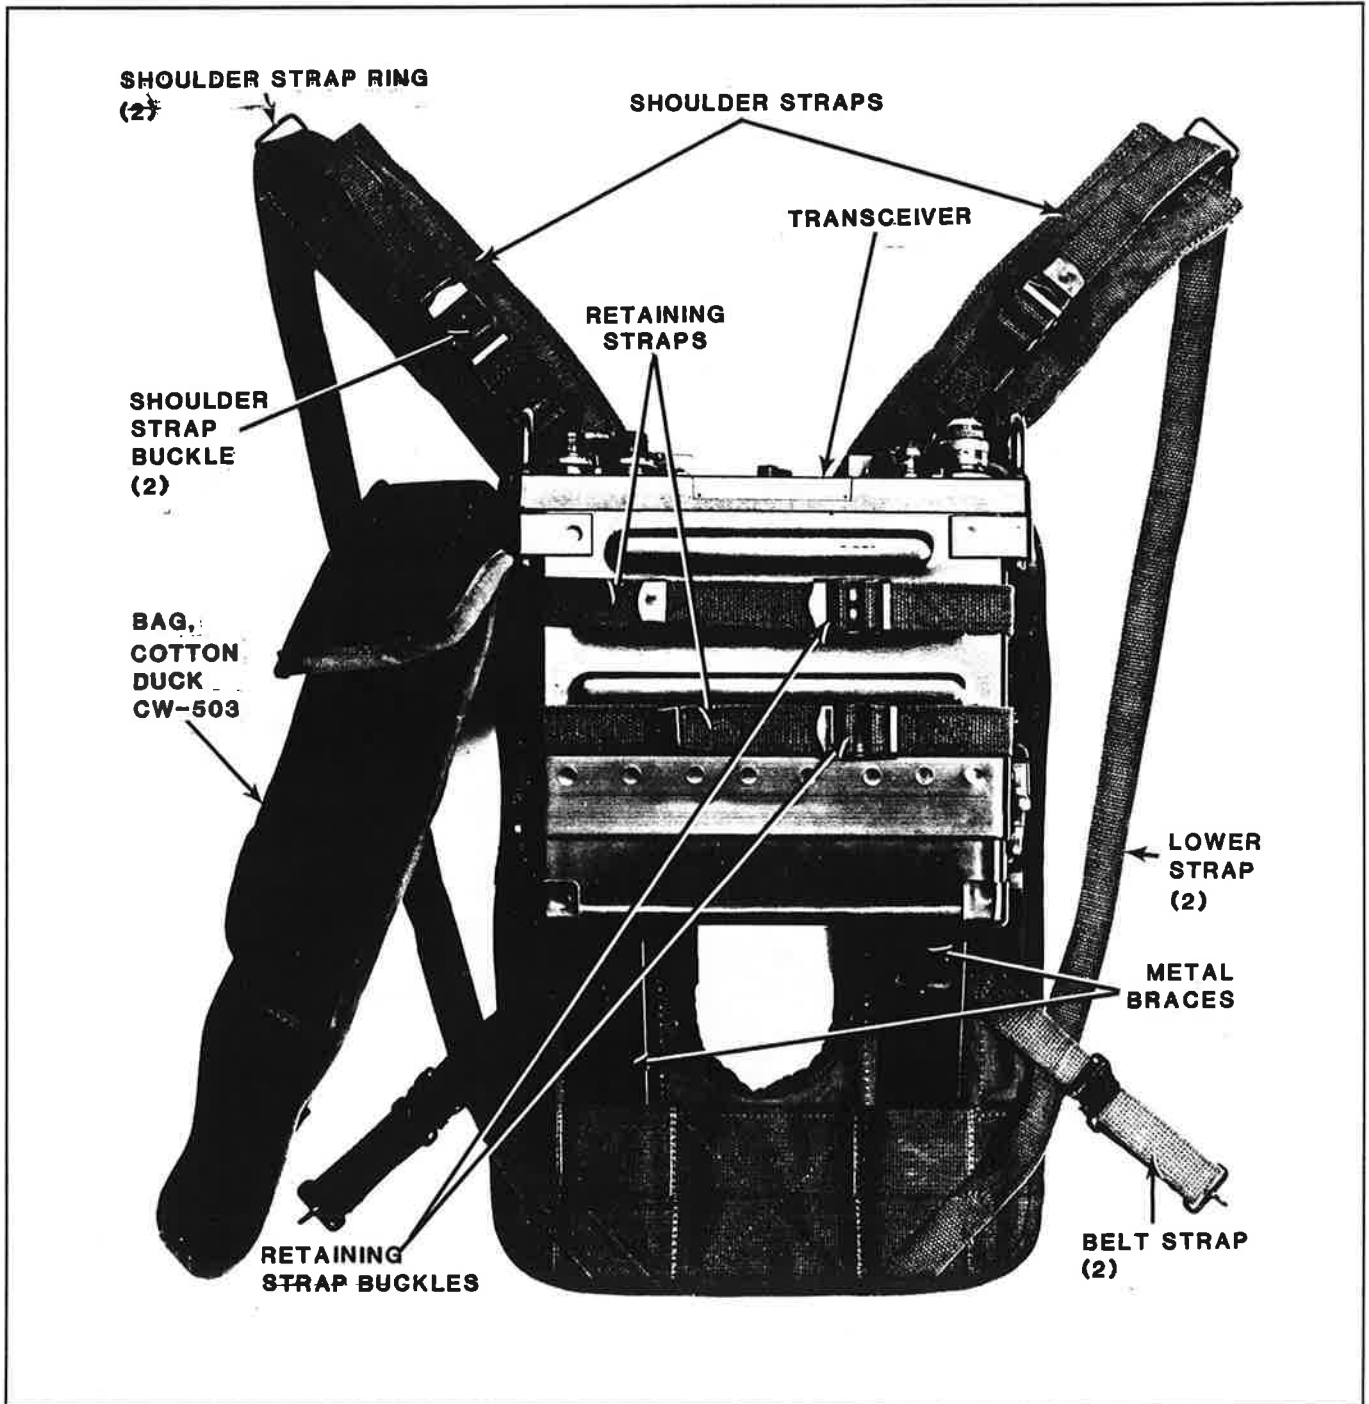
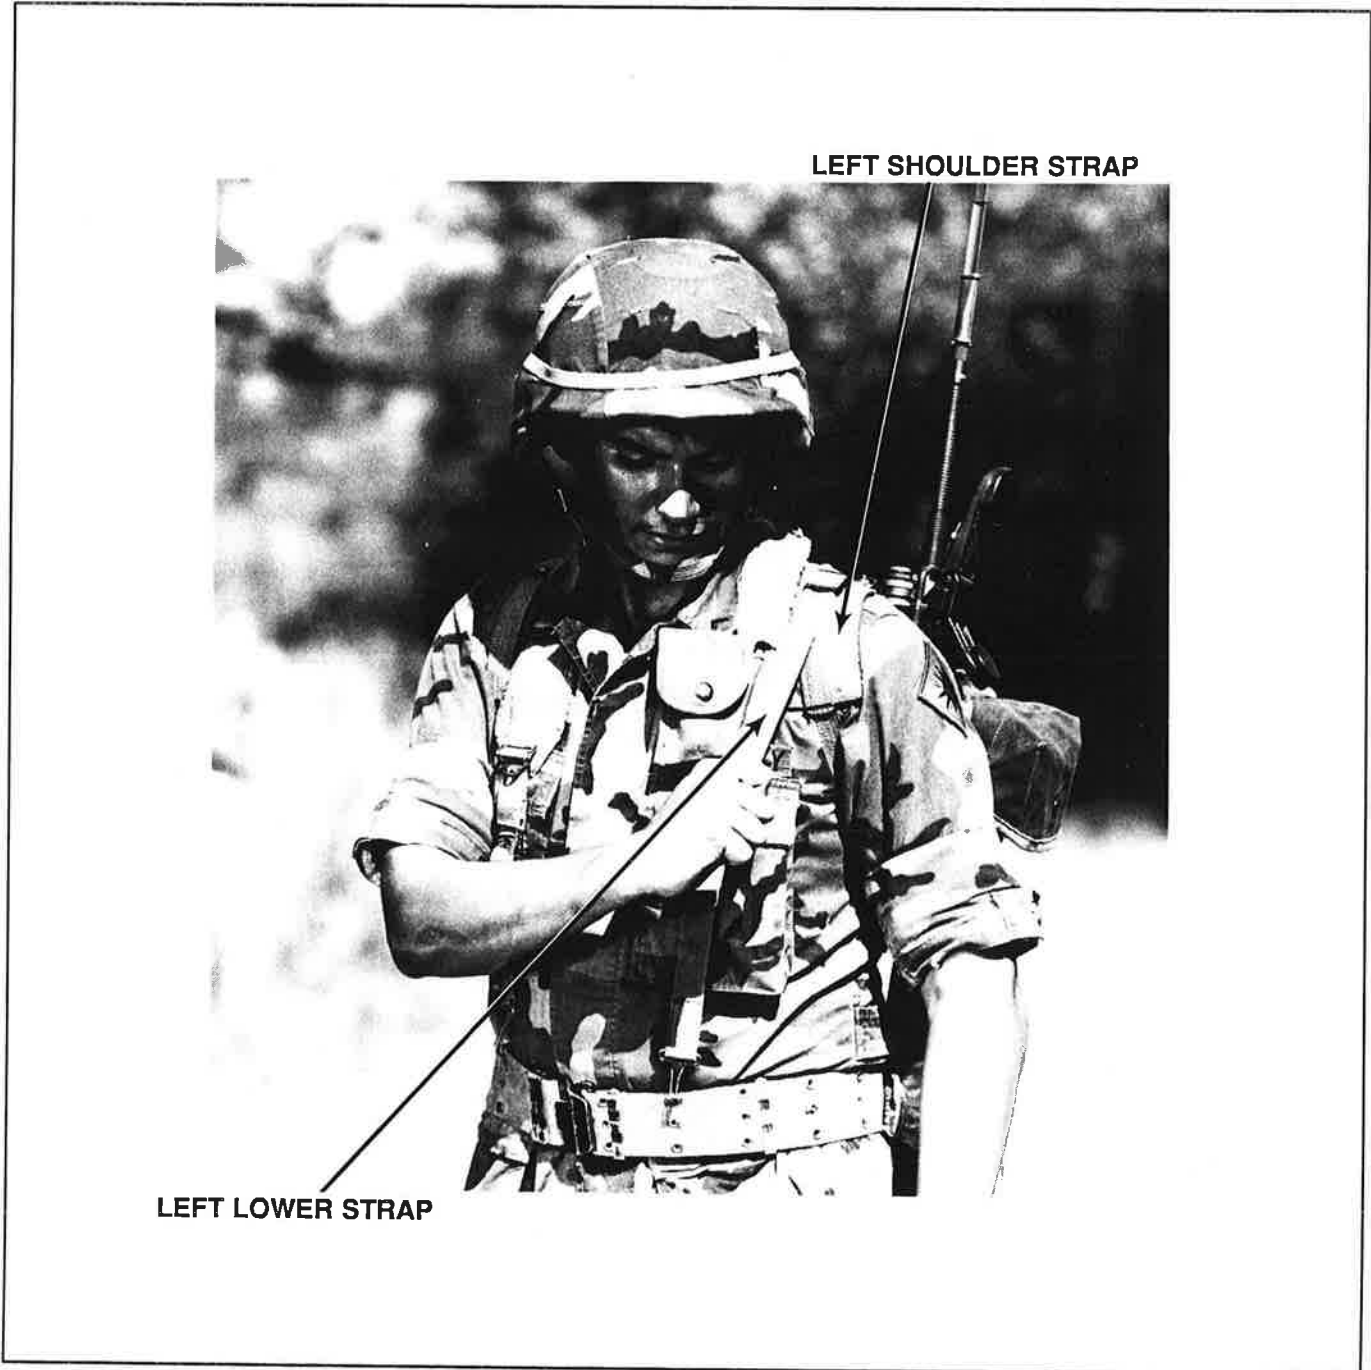

FIGURE 2-2.
FIGURE 2-3.
2-5. Assembly and Installation for Man-Pack Operation (Figure 2-2)
(4) Feed the end of the lower strap through the right shoulder strap ring. Feed the metal tip of the strap from below, through the center slot in the buckle, and then down through the end slot. (Figure 2-2).
(5) Install the left shoulder strap in a similar manner.
(6) Hook the two belt straps to the combat belt (Figure 2-3).